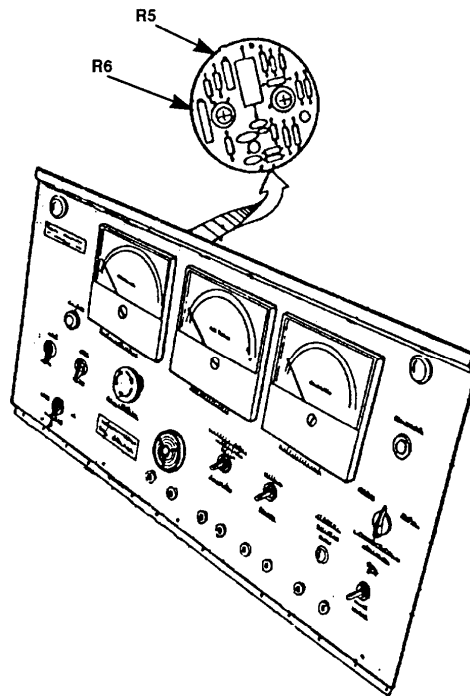

Figure 2. Temperature adjustment location.
(1) Adjust **R5** (fig. 2) for **TI TEMPERATURE** meter indication equal to thermometer indication (R).
(2) Adjust **R6** (fig. 2) for **TI TEMPERATURE** meter indication equal to thermometer indication (R).
(3) Repeat **a** (3) and (4) above.